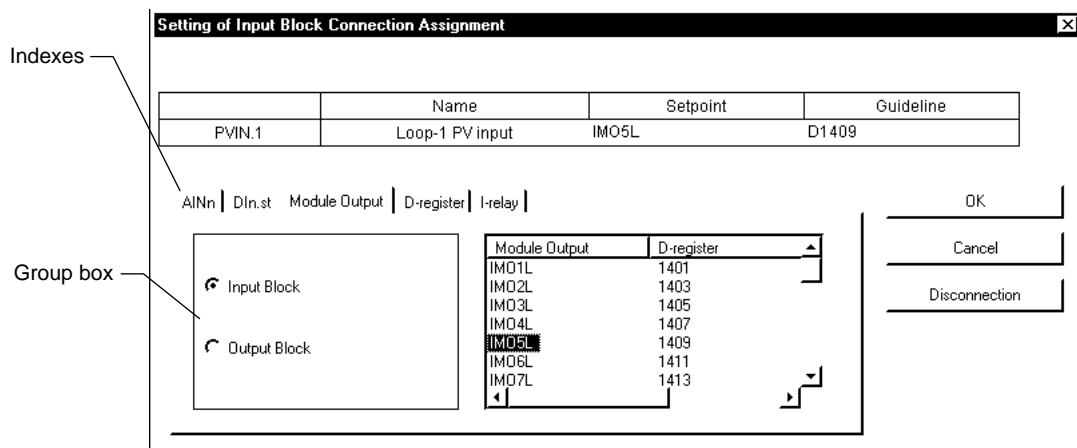

Figure 12.3.9 [Setting of Input Block Connection Assignment] Dialog Box
- ≠ From the tool menus, choose <Editing>, then <Connection>. The [Setting of Input Block Connection Assignment] dialog box (Figure 12.3.9) appears.